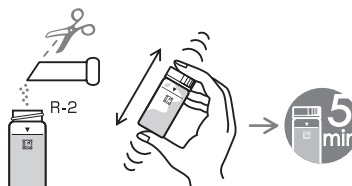

Fig.3
3. Add R-2 Reagent of LR-NO₂ into the cell, cap the cell tightly and shake the cell lightly 5 - 6 times. Then wait for 5 min. (Fig.3)